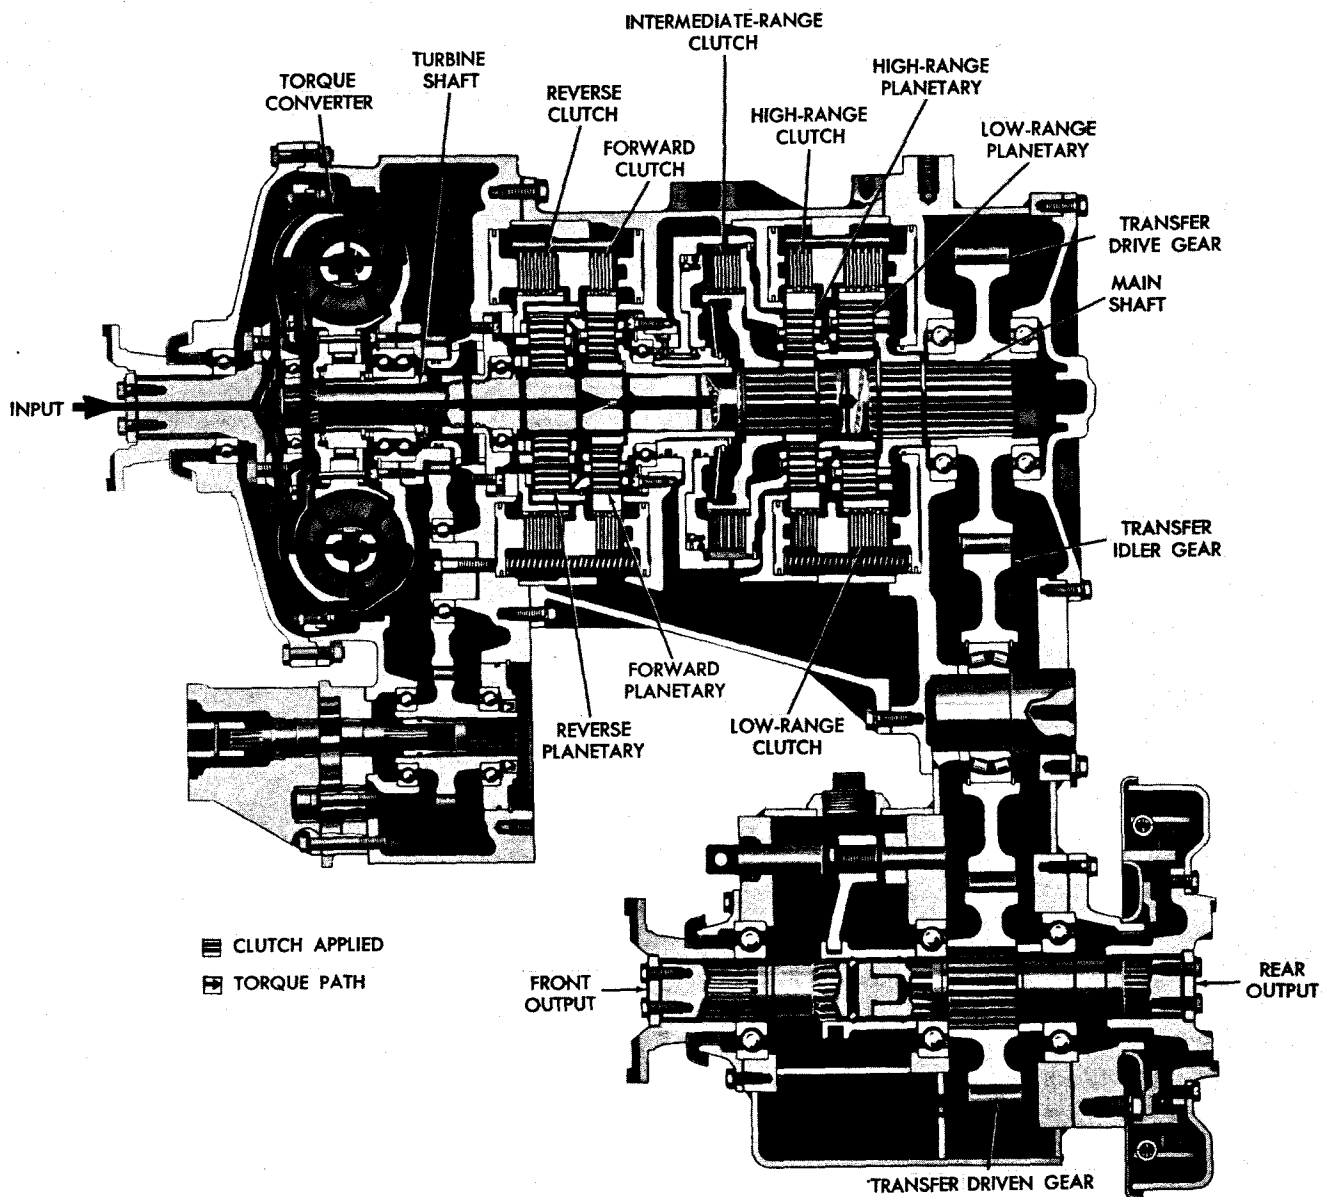

Fig. II-1. Neutral—torque path (CRT 3531-1 or CRT 3630-1)
a. Figures II-1 through II-7 illustrate the flow of power through the transmission during operation in the various drive ranges. Paragraphs 23 through 29, below, explain the flow of power. In the illustrations, the power path is represented by a continuous red line from the transmission input to the output or outputs. Applied clutches are indicated by parallel, horizontal red lines on the clutch plates.
(fig. II-1)